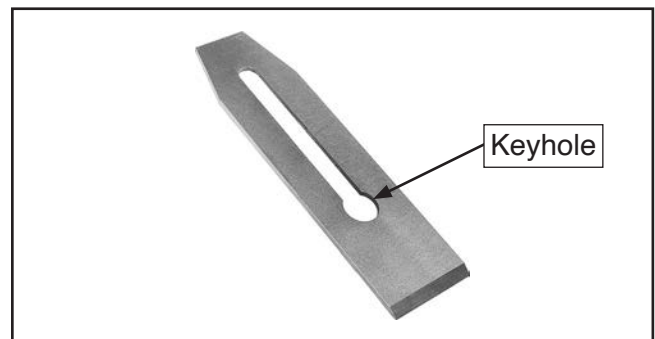

Figure 8. Blade keyhole.
2. Loosen blade screw securing blade to chip breaker and slide blade up until screw head clears blade keyhole, then remove blade (see **Figure 8**).